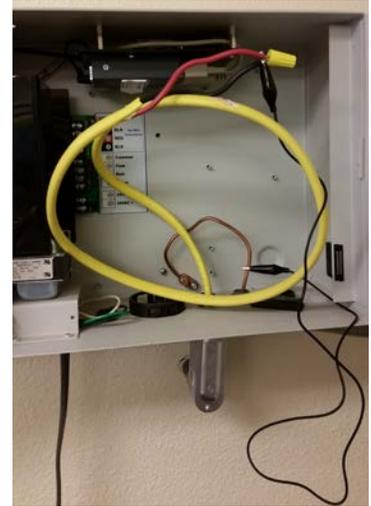

Figure 4
2. Use an alligator clip to connect the shorted wires to the ground lug. (See Figure 4.) Alternatively, you can add a separate wire to the wire nut, and then screw that wire into the ground lug.